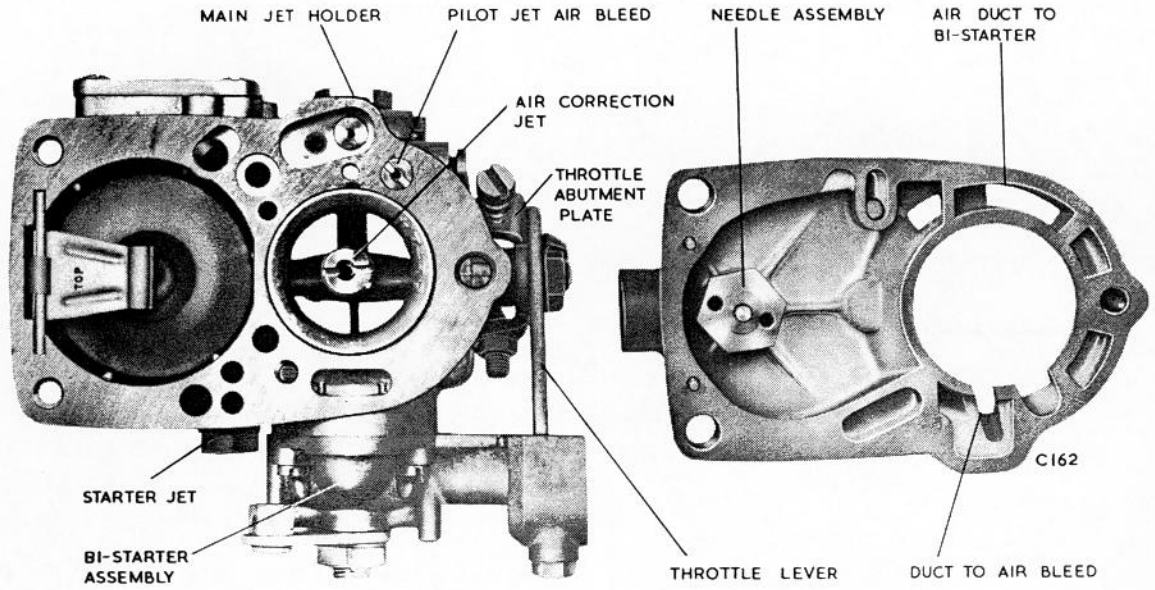

Fig.5 Jet and float chamber arrangement.
1. Remove the float chamber retaining screws and lift off the cover, see Fig.5; remove the gasket. Unscrew and remove the needle valve assembly, if necessary.